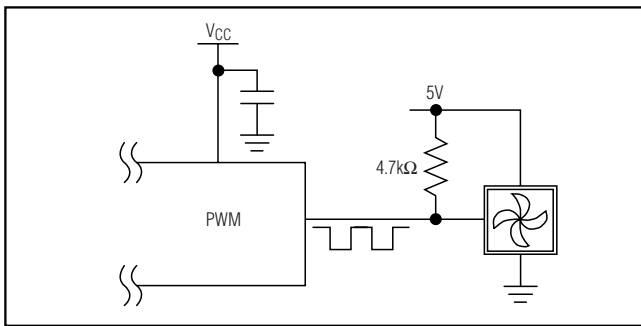

Figure 6. Controlling a PWM Input Fan with the MAX6615/ MAX6616s' PWM Output (Typically, the 35kHz PWM Frequency Is Used)
- 3) PWM_ directly drives the logic-level PWM speed-control input on a fan that has this type of input. This approach requires fewer external components and combines the efficiency of (1) with the low noise of (2). An example of PWM_ driving a fan with a speed-control input is shown in Figure 6. Bit D4 in register 02h should be set to 1 when this configuration is used.